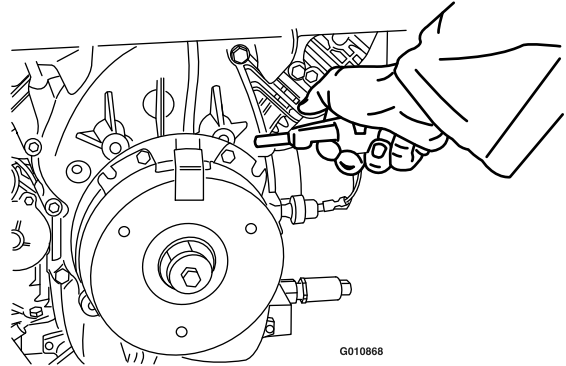

Figure 67
2. Using an air compressor, blow out any debris from under the brake pole and around the brake spacers (Figure 67).